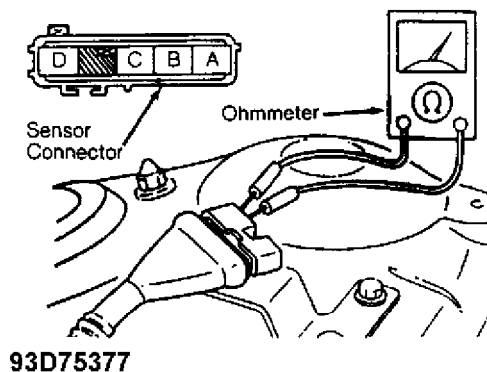

Fig. 10: Checking Impact Sensor Resistance
3) Disconnect diagnostic module connectors. Reconnect negative battery cable. Measure voltage between diagnostic module connector terminal 1A (Black/White wire) and ground. See Fig. 10. If battery voltage is present, go to next step. If battery voltage is not present, replace wiring harness assembly.
4) Measure voltage between diagnostic module connector terminal 2M (Black/Yellow wire) and ground. See Fig. 10. If battery voltage is present, go to next step. If battery voltage is not present, replace wiring harness assembly.
5) Measure voltage between diagnostic module connector terminal 2N (White/Green wire) and ground. See Fig. 10. If battery voltage is present, replace diagnostic module. If battery voltage is not present, replace wiring harness assembly.
2) Disconnect diagnostic module connectors. Check for continuity between diagnostic module connector terminals 1N (Black/Yellow wire) and 2D (Black wire). See Fig. 10. If there is continuity, go to next step. If there is no continuity, go to step 5).
4) Reconnect all front impact sensor connectors. Disconnect diagnostic module connectors. Measure resistance between diagnostic module connector terminals 1H (Purple wire) and 1M (Red/White wire). See Fig. 10. If resistance is 1200 ohms, go to next step. If resistance is not 1200 ohms, replace wiring harness.
5) Measure resistance between diagnostic module connector terminals 1G (Yellow wire) and 1O (Orange/White wire). See Fig. 10. If resistance is 1200 ohms, go to next step. If resistance is not 1200 ohms, replace wiring harness.
6) Measure resistance between diagnostic module connector terminals 2H (Green/Yellow wire) and 2F (Blue/White wire). See Fig. 10. If resistance is 1200 ohms, replace diagnostic module. If resistance is not 1200 ohms, replace wiring harness.
3) Reconnect all front impact sensor connectors. Disconnect diagnostic module connectors. Measure resistance between diagnostic module connector terminals 1H (Purple wire) and 1M (Red/White wire). See Fig. 10. If resistance is about 1200 ohms, go to next step. If resistance is not about 1200 ohms, replace wiring harness.
4) Measure resistance between diagnostic module connector terminals 1G (Yellow wire) and 1O (Orange/White wire). See Fig. 10. If resistance is about 1200 ohms, go to next step. If resistance is not about 1200 ohms, replace wiring harness.
5) Measure resistance between diagnostic module connector terminals 2H (Green/Yellow wire) and 2F (Blue/White wire). See Fig. 10. If resistance is about 1200 ohms, go to next step. If resistance is not about 1200 ohms, replace wiring harness.
6) Check for continuity between diagnostic module connector terminal 2J (Light Green wire) and ground. See Fig. 10. If continuity is present, replace wiring harness. If continuity is not present, replace diagnostic module.
1) Disable air bag system. See DISABLING & ACTIVATING AIR BAG SYSTEM. Disconnect diagnostic module connectors. Check for continuity between diagnostic module connector terminals 1J (Green wire) and 2L (Green/Red wire). See Fig. 10.
3) Check continuity between diagnostic module connector terminals 1L (Green/White wire) and 2K (White wire). See Fig. 10. If continuity is present, go to next step. If continuity is not present, go to step 6).
4) Check continuity between diagnostic module connector terminals 2L (Green/Red wire) and 2K (White wire). See Fig. 10. If continuity is present, go to next step. If continuity is not present, go to step 6).
5) Check continuity to ground at diagnostic module connector terminals 2L (Green/Red wire) and 2K (White wire). See Fig. 10. If continuity to ground is present at either terminal, replace diagnostic module. If continuity to ground is not present at either terminal, go to next step.
6) Disconnect diagnostic module connectors. Check continuity of wiring harness between diagnostic module connector terminal 2I (Blue wire) and clockspring connector terminal "B" (Blue wire). See Figs. 10 and 13. If continuity is present, go to next step. If continuity is not present, replace wiring harness.
7) Check continuity of wiring harness between diagnostic module connector terminal 2J (Light Green wire) and clockspring connector terminal "C" (Light Green wire). See Figs. 10 and 13. If continuity is present, go to next step. If continuity is not present, replace wiring harness.
SYSTEM. Check continuity of harness between diagnostic module connector terminal 2A (Red wire) and instrument cluster connector terminal 1J (Red wire). See Fig. 10.
6) Check continuity of harness between diagnostic module connector terminal 2C (Purple wire) and instrument cluster connector terminal 2E (Purple wire). See Fig. 10.